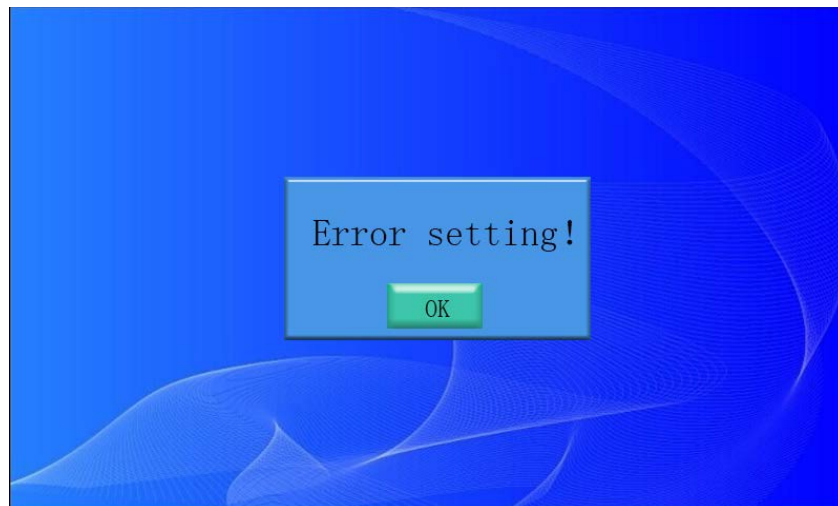

Figure 6 - Parameter setting error interface
① If the parameter settings returns an error, the system will pop up a prompt box, seen in figure 6: